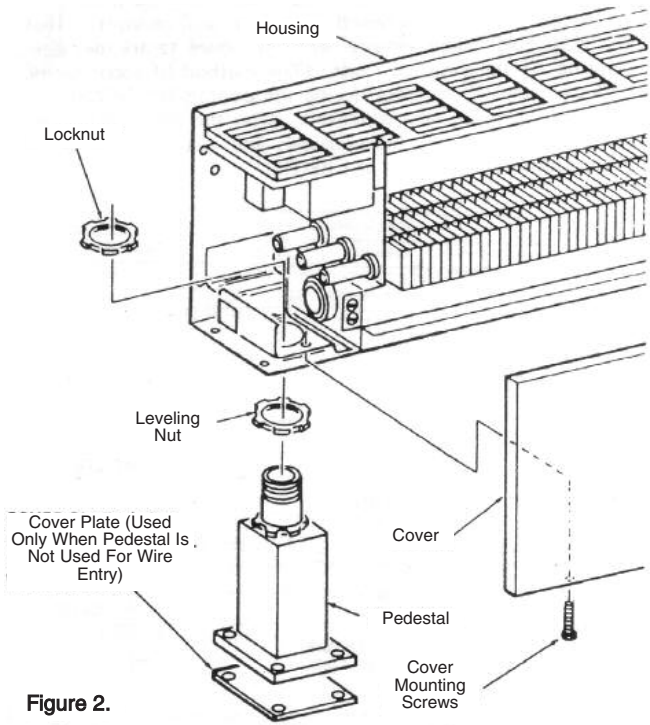

Figure 2.
- Note** When pedestal is not used for wire entry, pedestal base must be covered with cover plate (supplied with pedestal). See Figure 2.
1. Remove front cover by removing mounting screws (Fig. 2)
6. Replace front cover and secure with mounting screws. (See Figure 2.)
1. Remove front cover by removing mounting screws (Figure 2.)
- Replace front covers, and secure with mounting screws. (Figure 2.)